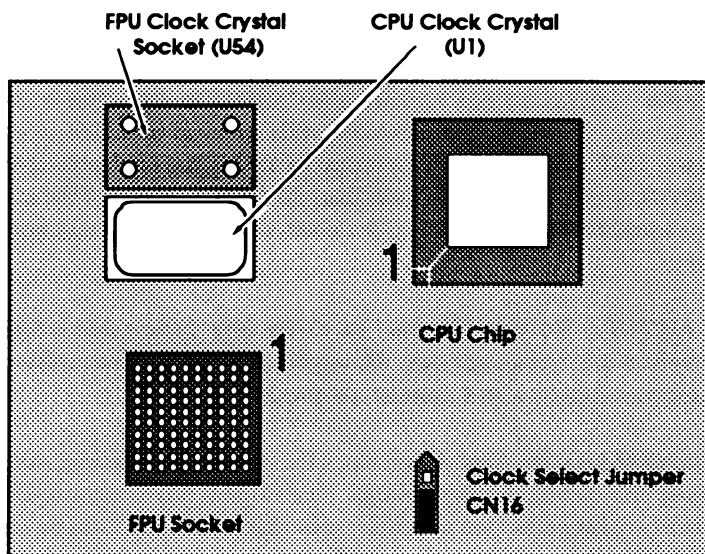

Figure 3.9 – Combo board CPU, FPU and clock crystals.
- 2) Locate the components identified in Figure 3.9.